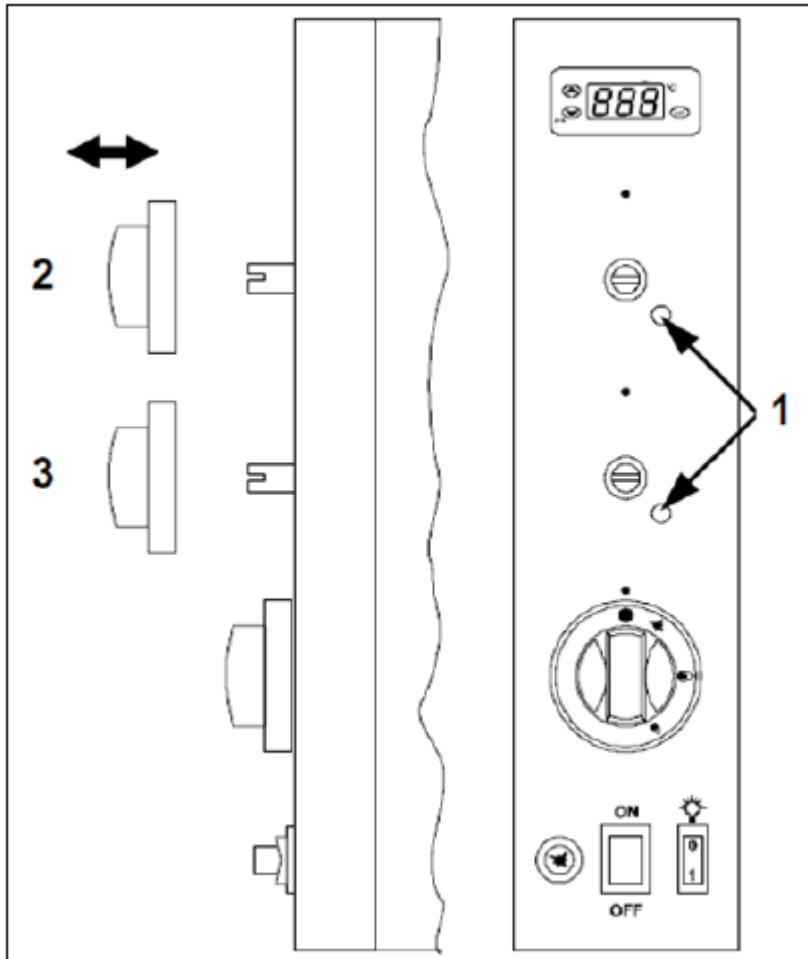

FIG.10
For liquid gas operation (G30 - G31) the minimum is fixed and the screw (FIG.10-Ref.1) fastened ,for the use of other types of gas the minimum regulation is as follows:
- Pull off manually the respective burner knob on the control panel (FIG.10-Ref.2/3);
- Turn the screw (FIG.10-Ref.1) anticlockwise 2 or 3 times and then fix the knob again;
- Pull off again the knob and fasten the screw (FIG.10-Ref.1) until the lighted flame is visibly acceptable;